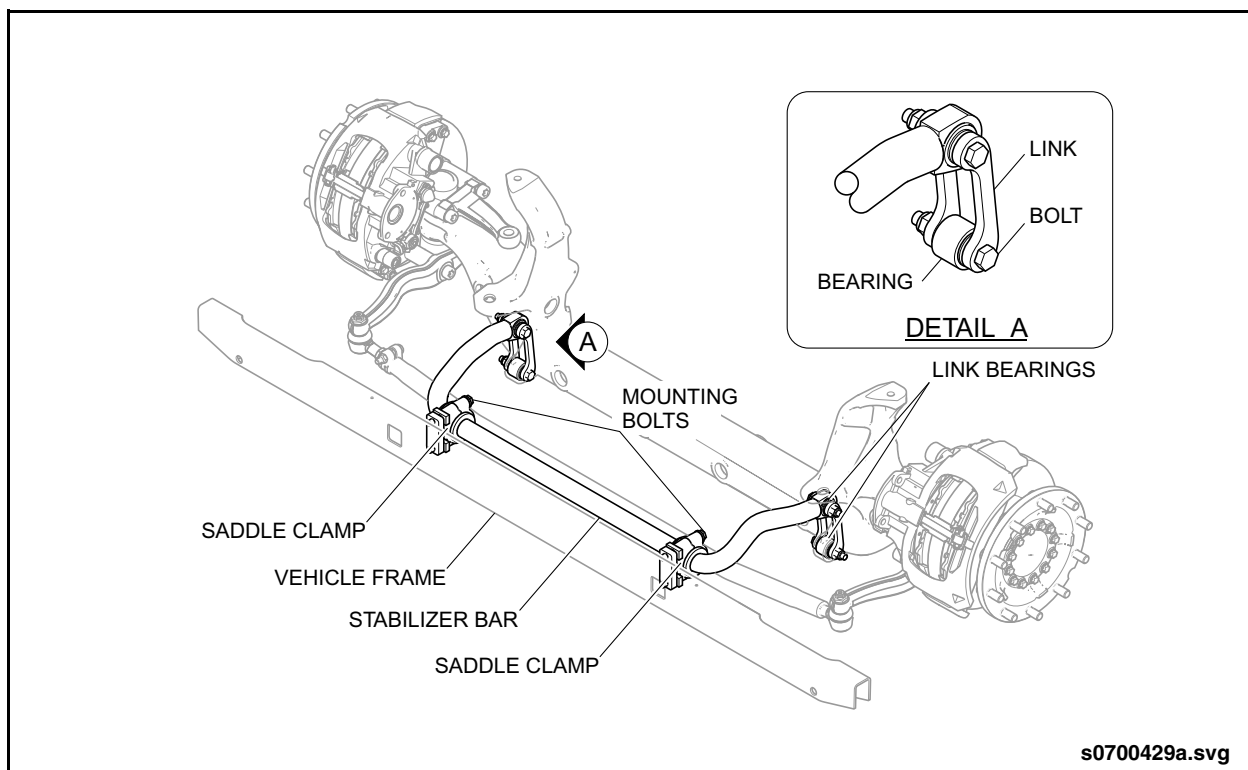

Fig. 1: Stabilizer Bar Inspection
- ❑ Check for excessive play in the bearings at the stabilizer ends and link locations. See “Fig. 1: Stabilizer Bar Inspection” on page 2.